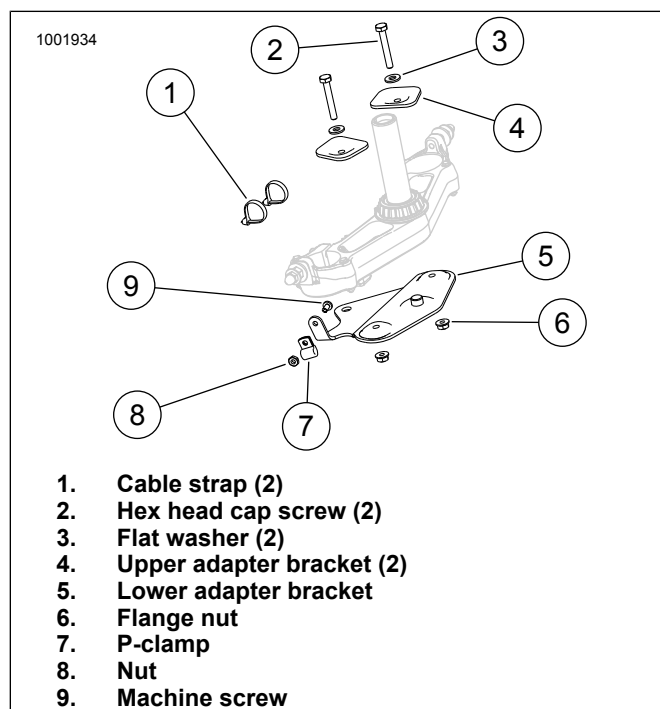

Figure 3. Install Fork Bracket Mount
5. See Figure 3. Install the steer damper lower adapter bracket (5) using two 1/4-20 x 1.75 in screws (2), flat washers (3) and nuts (6).
- a. Insert the screws through upper brackets (4) with the flat washers (3) between the screw head and upper adapter brackets.